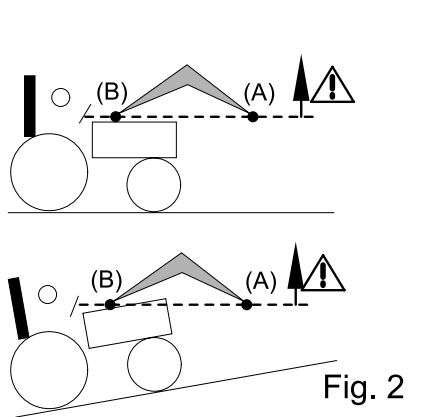
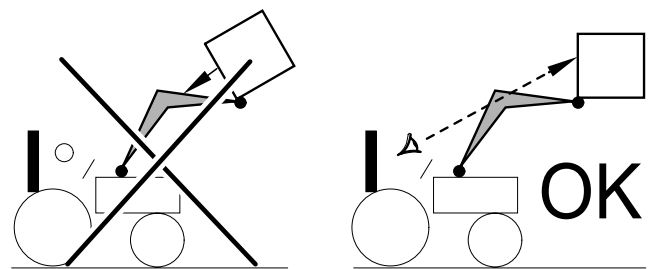

Fig. 2
Fig. 3
- During lifting operations and when moving, ensure that you keep the load in sight, from the moment the implement pivot point (A) passes above the horizontal line of the loader pivot point (B) [see Fig. 2]. If necessary, correct the implement's position so that the load is never directed towards the driver [see Fig. 3].
! **DANGER:** If the load is not properly secured, the operator is exposed to the risk of the load falling when the implement pivot point (A) passes above the horizontal line of the loader pivot point (B) [see Fig. 2].
! **DANGER:** Do not crowd the loader when the implement pivot point (A) exceeds the horizontal line of the loader pivot point (B) [see Fig. 2].